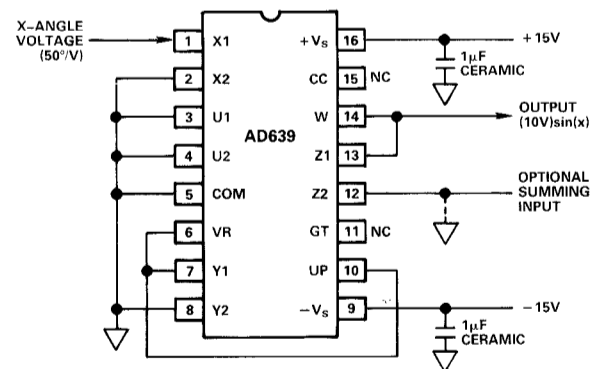

Figure 2. Connections for the Sine Mode with Amplitude Preset to 10V
The AD639 can generate either (1) a low-distortion continuous sinewave from a repetitive triwave input or (2) a high-accuracy sine function for use in computational applications. In most cases, the choice of preset or externally-controlled amplitude will make little difference to distortion or accuracy, and both methods are used in this section. In all of the *normal* modes, the Z2 input can be used either to sum a further signal to the output (or introduce an optional output offset trim). The denominator is set to unity by making $y=90^\circ$, using the +1.8V output. Figure 2 shows typical connections. The 10V preset is selected, using V_r as a control input to UP, and the ideal output is $(10V)\sin(x)$. In practice, five basic types of error arise:
1. **X-angle scaling error:** The amount by which the angle generated for each volt of X-input differs from 50° . In triwave-to-sinewave (CW) applications this introduces odd-order harmonic distortion, and is indistinguishable from an incorrect triwave amplitude.